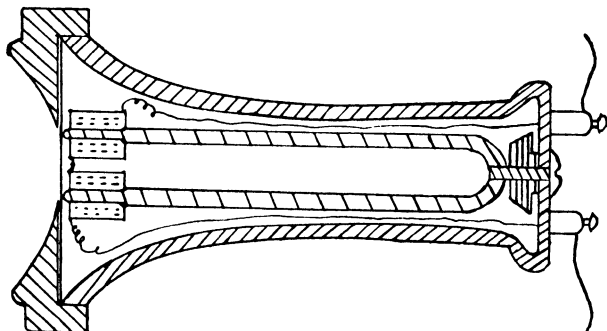

FIG. 14.
**The Receiver.**—A telephone receiver as shown in Fig. 14 consists of a permanent horseshoe magnet with a spool